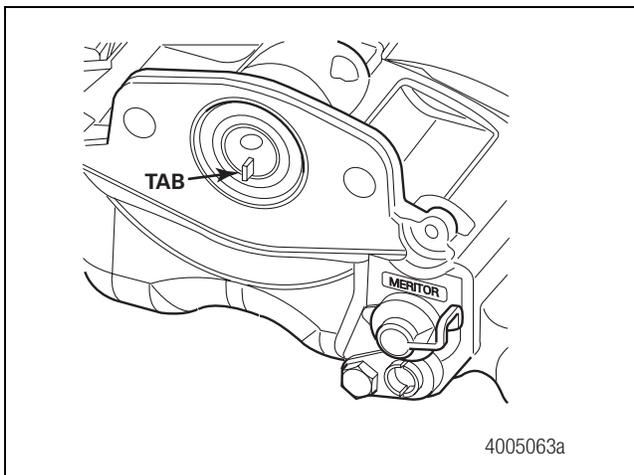
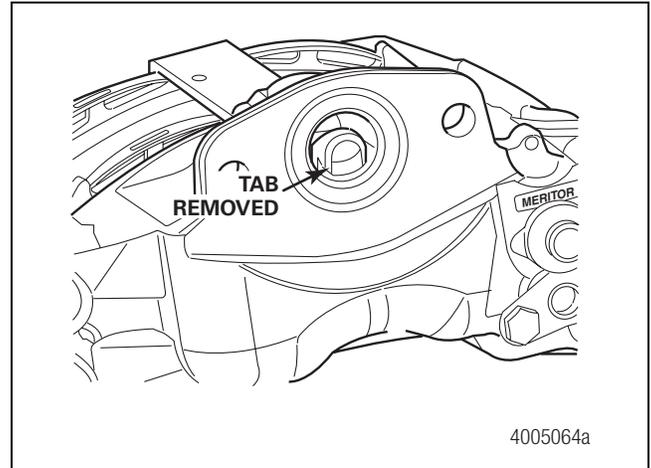

Figure 5.4
Figure 5.5
4. Before you install the air chamber onto the caliper assembly, ensure the perforated transit plug is removed from the caliper chamber seal by pulling the tab. Figure 5.4 and Figure 5.5.